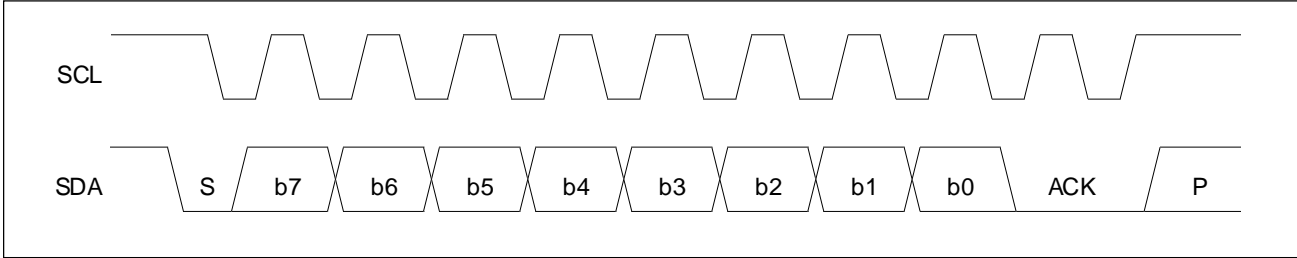

Figure 1. Control Interface Timing
When the MODE pin (pin 46) is set low the FLI2200 operates as a slave device, responding to commands from a master controlling the bus. The protocol is generally I²C compatible. Between operations the master sets the bus into the idle state, during which the master releases both the clock (SCL) and data (SDA) lines so that they both go high. All operations commence with a **START (S)** command from the master; this is indicated by the master setting the SDA line low while the clock is in the high state, as shown in Fig. 1. The clock then goes low and an operation begins. All write operations consist of 8-bit (byte) transfers either from or to the master, after which the receiving slave responds with an **Acknowledge (A)** by setting the SDA line low for one clock cycle. In the read operation process is similar but the receiver (the master in this case) omits the acknowledge after the data byte is read from the FLI2200. During the course of all operations the SDA line will only change while the SCL line is low, and should remain stable while SCL is high. The master indicates the end of an operation or set of operations with a **STOP (P)** command, indicated a rising edge on SDA while SCL is high. Sets of multiple operations can be executed by means of further **START** commands at the end of each operation with or without a **STOP**.